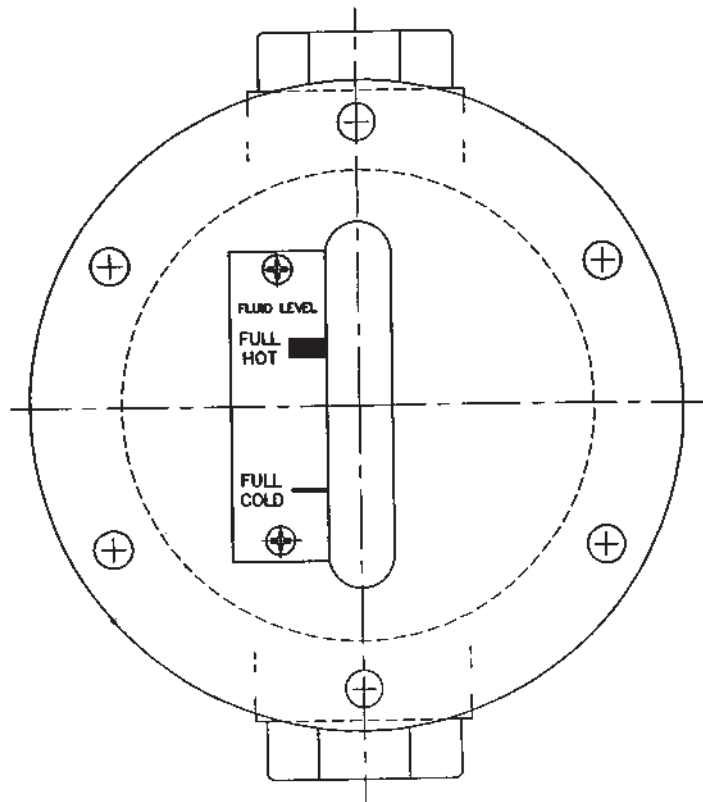

Figure 1-8. Sight Glass Assembly
- c. If the pump is hot, wait until the pump has cooled then vent it to atmosphere. Remove the plug from the filling port of the pump and install the specified quantity of fluid up to the FULL COLD level indicator on the sight glass (see Figure 1-8). The fluid can also be poured in from the pump inlet or foreline.